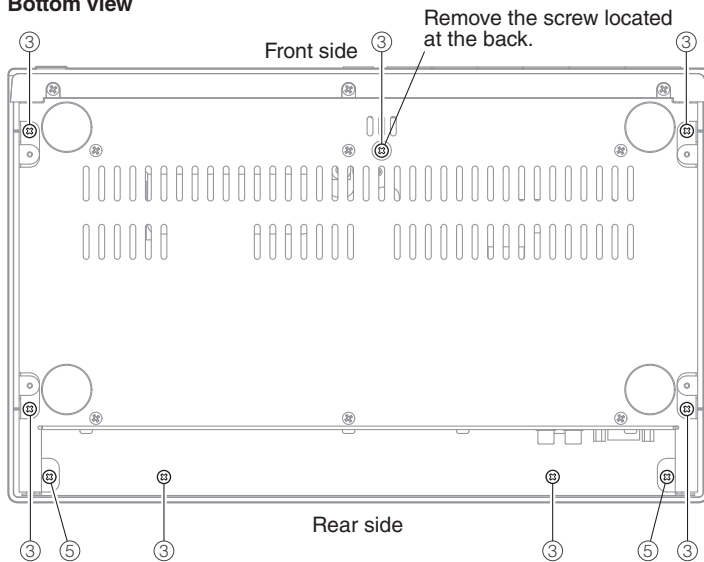

Fig. 2
- b. Remove 2 screws (⑤). (Fig. 2)